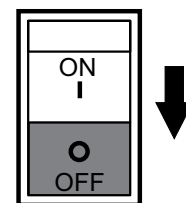

Figure 48. Circuit Breaker OFF (GFCI Test)
7. Also verify that the main circuit breaker (Figure 48) switch trips to the **OFF** position.